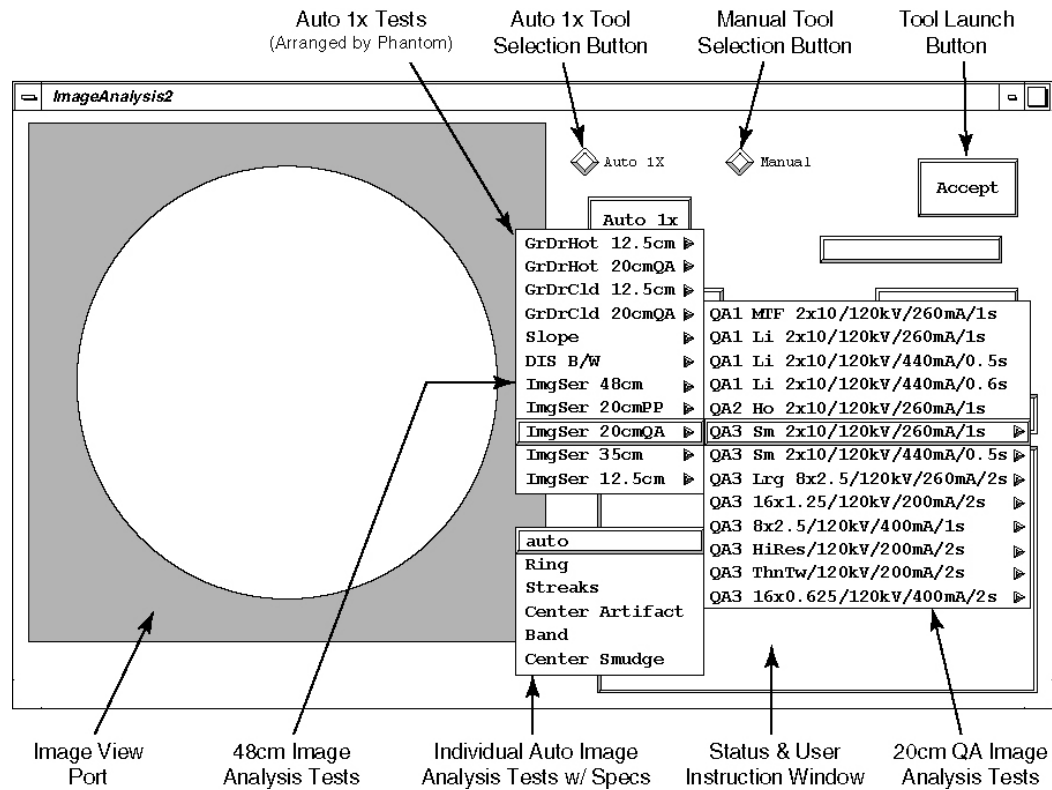

Figure 8-5 Image Analysis Tool User Interface – Auto 1x Test Pull Down Menu
- b.) On the Image Analysis Tool window, click on the AUTO 1X diamond shaped button. (See Figure 8-5.)